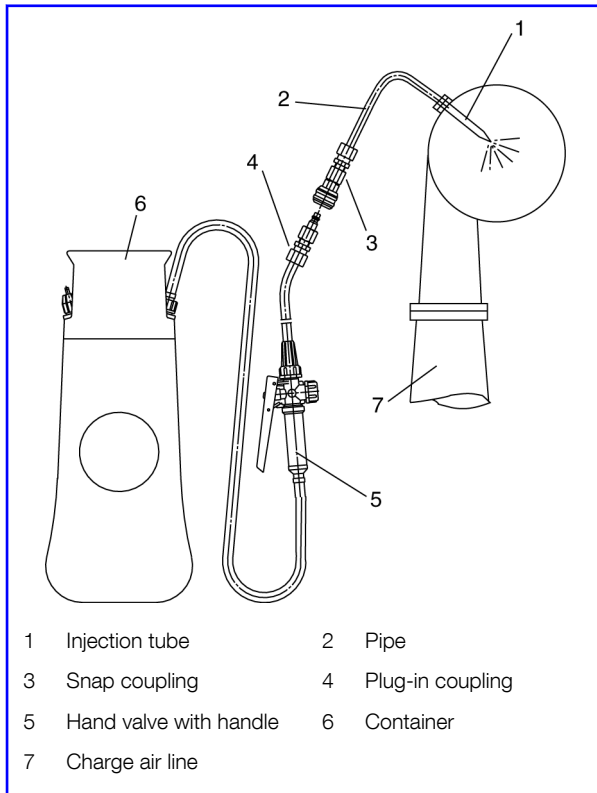

Figure 3: .
- 6) Connect the plug-in coupling of the lance to the snap coupling on the pipe (see fig 3).